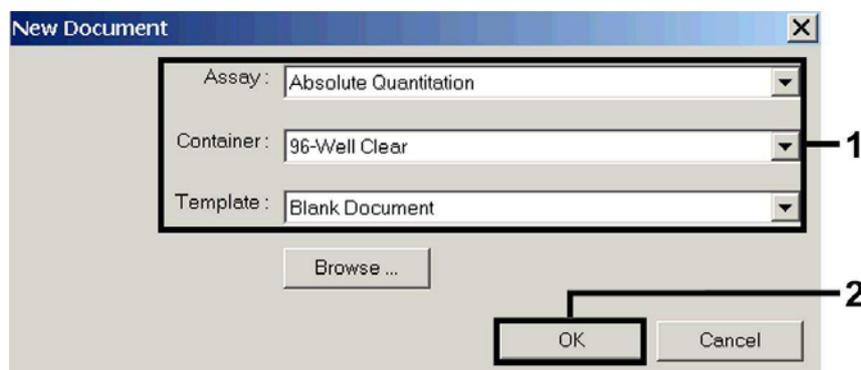

Fig. 3: Pre-settings for creating a new PCR run (*New Document*).
Select the item *New* from the *File* menu on the *ABI PRISM 7000 SDS* and programme the following initial settings for the new document (see Fig. 3). A backup template (*SDS Template* [*.sdt]) is available from the *Template* list or by selection using the *Browse* function (see 8.5.1.5 Saving the PCR Run). Confirm your pre-settings (OK).